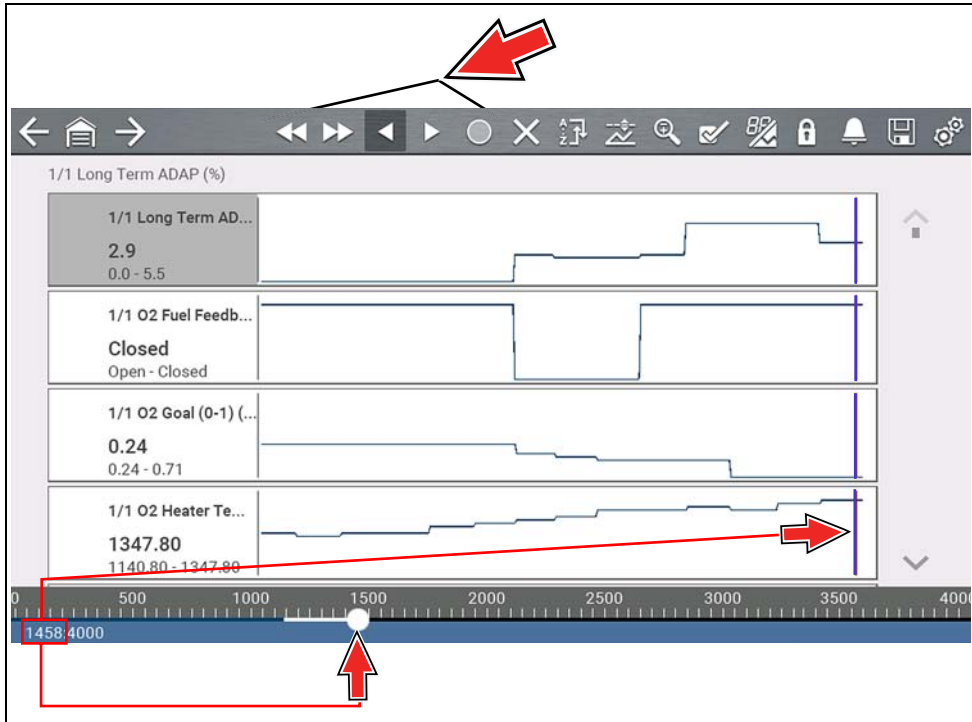

Figure 4-23
- Use the review control icons (Figure 4-23) to accurately move through the data.
- The blue (vertical cursor) (Figure 4-23) indicates your position in the data and is denoted by the current position value in the counter display. This cursor displays in all PIDs.